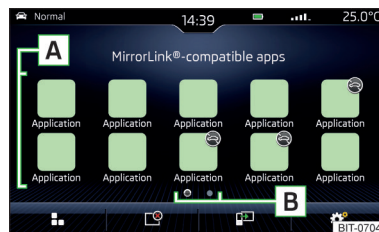

Fig. 192
- In the Mirrorlink® connection main menu, select the desired application in the field **A** » Fig. 192 on page 171.
- In the main menu of the MirrorLink® - connection, press the function surface  » Fig. 192 on page 171 The last displayed application is displayed.
If you want to display a different application, then the function surface of the desired application must be tapped in the main menu of the MirrorLink® connection  » Fig. 192 on page 171.